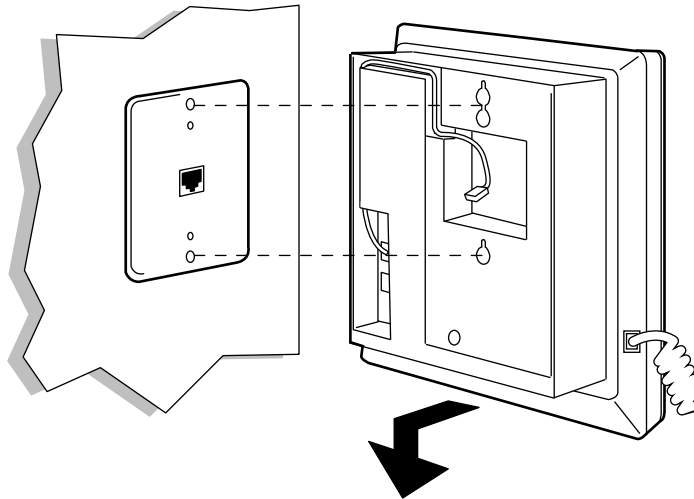

FIGURE 7-20. Placing the Voice Terminal onto the Wall Plate Mounting Studs
1. Place the base of the voice terminal on the wall plate mounting studs, and pull downward until it is secure, as shown in Figure 7-20.